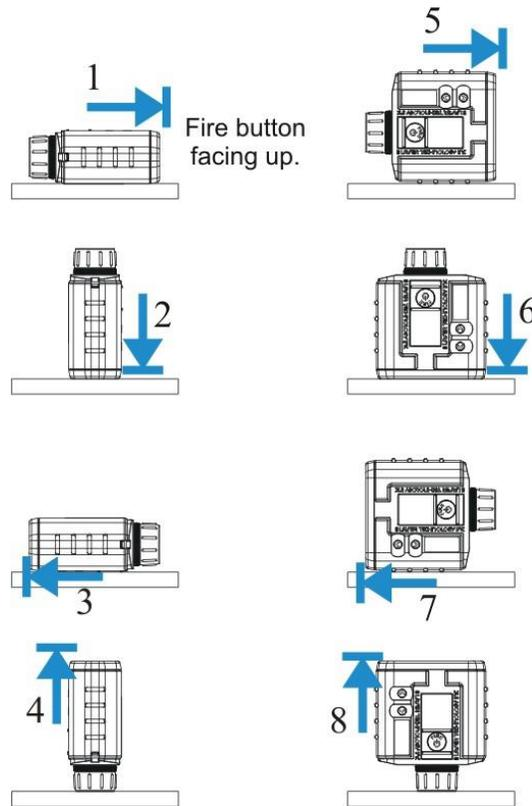

Figure 7. The TruPulse tilt-sensor calibration routine.
6. Place the TruPulse on a relatively flat surface (within 15deg of level), and follow the sequence outlined in **Figure 7** below.